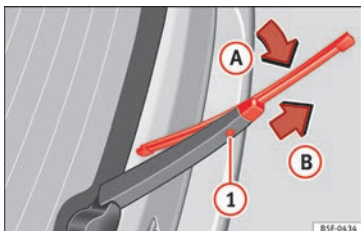

Fig. 83 Changing the rear wiper blade
- Turn the blade slightly »» Fig. 83 (arrow A).
- Hold down the release button ❶ while gently pulling the blade in the direction of arrow B.
- Insert a new blade of the **same length and type** in the rear wiper arm in the opposite direction to the arrow B and hook into place button ❶.